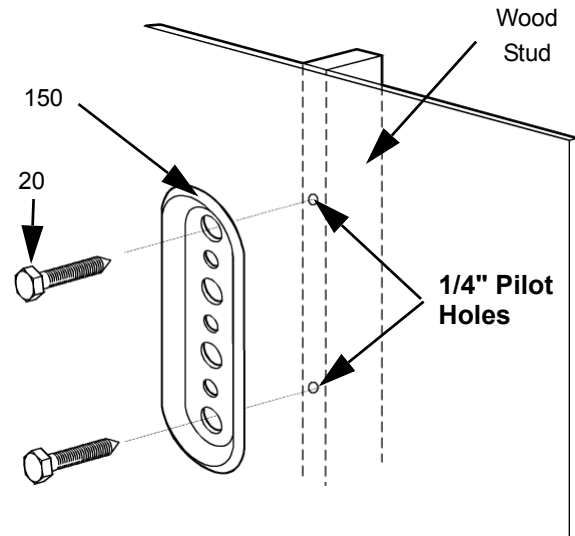

Figure 2: Secure Wall Bracket
2. Using the wall bracket (150) as a template, mark the two pilot holes for mounting the wall bracket. (see figure 2)